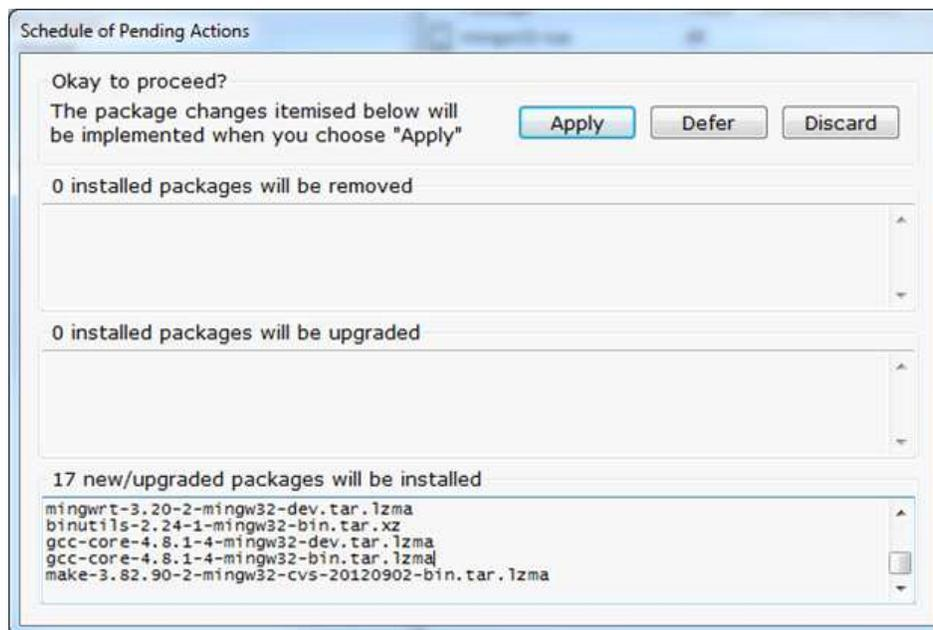

Figure 7. Schedule of Pending Actions
3. In the Installation Manager, select 'all Packages'. Choose the packages mingw32-make and mingw32-gcc by clicking on the names and selecting 'mark for installation'. Then, select Installation → Apply Changes and click the 'Apply' button (see Figure 7).